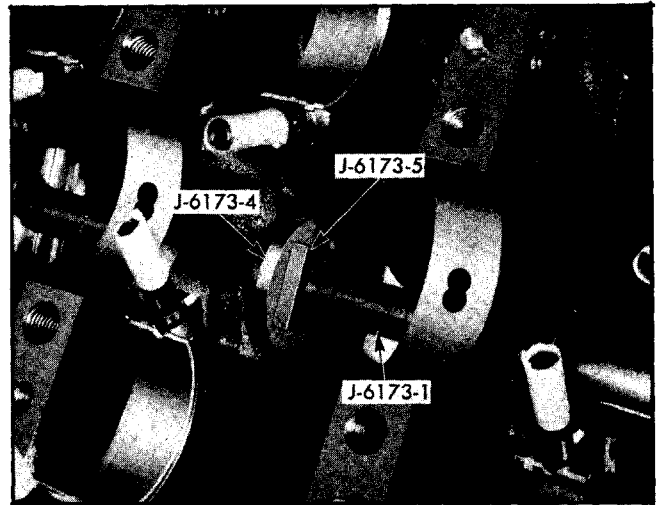

Fig. 6-70 Preparing to Remove Bearing
5. Slip Key J-6173-5 into notches in shaft behind bearing to be removed (Fig. 6-70).